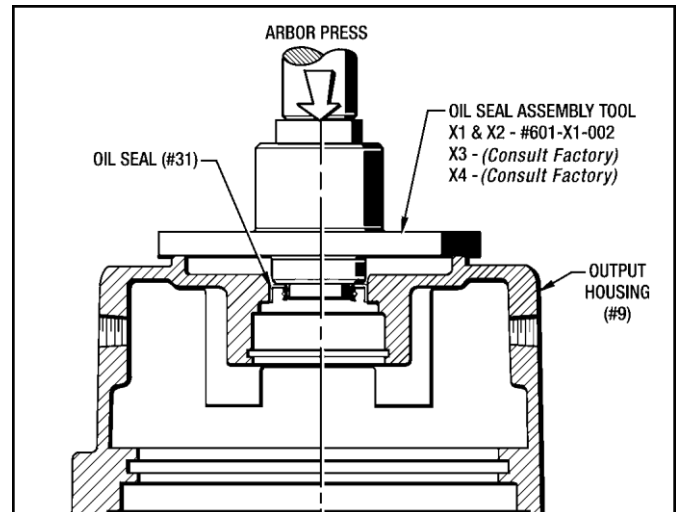

Figure 9.3 - Installing Oil Seal (#31)
(See Figures 9.3 and 10.1)
2. Install the Oil Seal (#31) into the Output Housing (#9) with an Arbor Press and the appropriate Assembly Tool as shown in Figure 9.3. **IMPORTANT-This Oil Seal must be installed squarely to prevent oil leaks.**